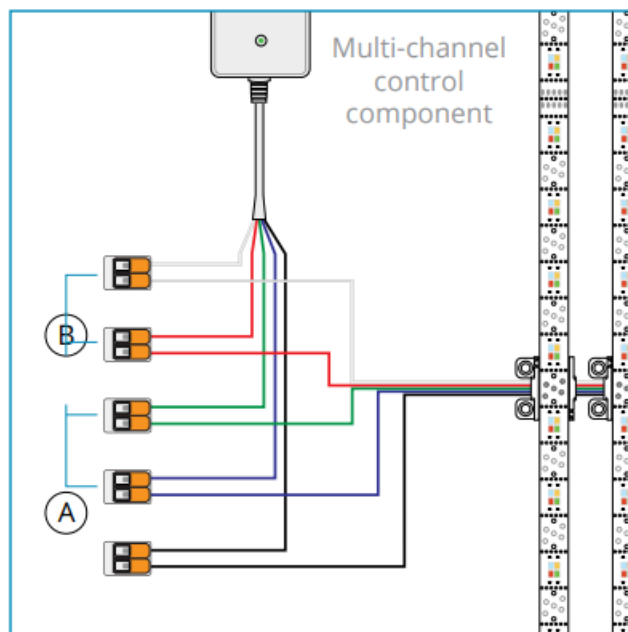

Figure 4
3. Route lead wires from multi-channel control component to TRAX Array's lead wires (figure 4).